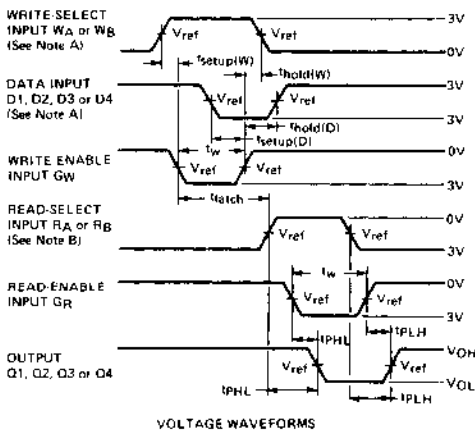

FIGURE 1
Test Conditions: $R_L = 2.0k$, $C_L = 15pF$, (See Figs. 1 and 2 and Fig. B, page 2-174)
Test Condition: $R_L = 2.0k$, $C_L = 50pF$, (See Figs. 1 and 2 and Fig. B, page 2-174)
- A. High-level input pulses at the select and data inputs are illustrated in Figure 1; however, times associated with low-level pulses are measured from the same reference points.